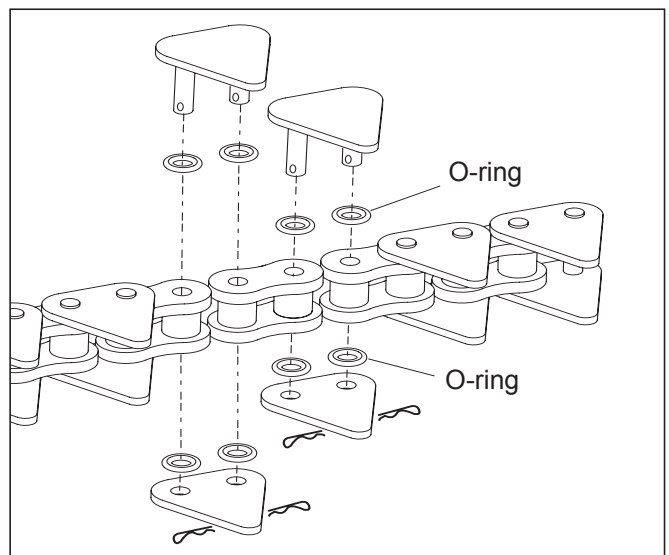

Figure 37 Special chain link and O-rings
7. The chain has two coupling links (figure 37). These links are found by turning the drum by hand, then remove link.
6. Install the new chain with the special link and the O-ring (figure 37).